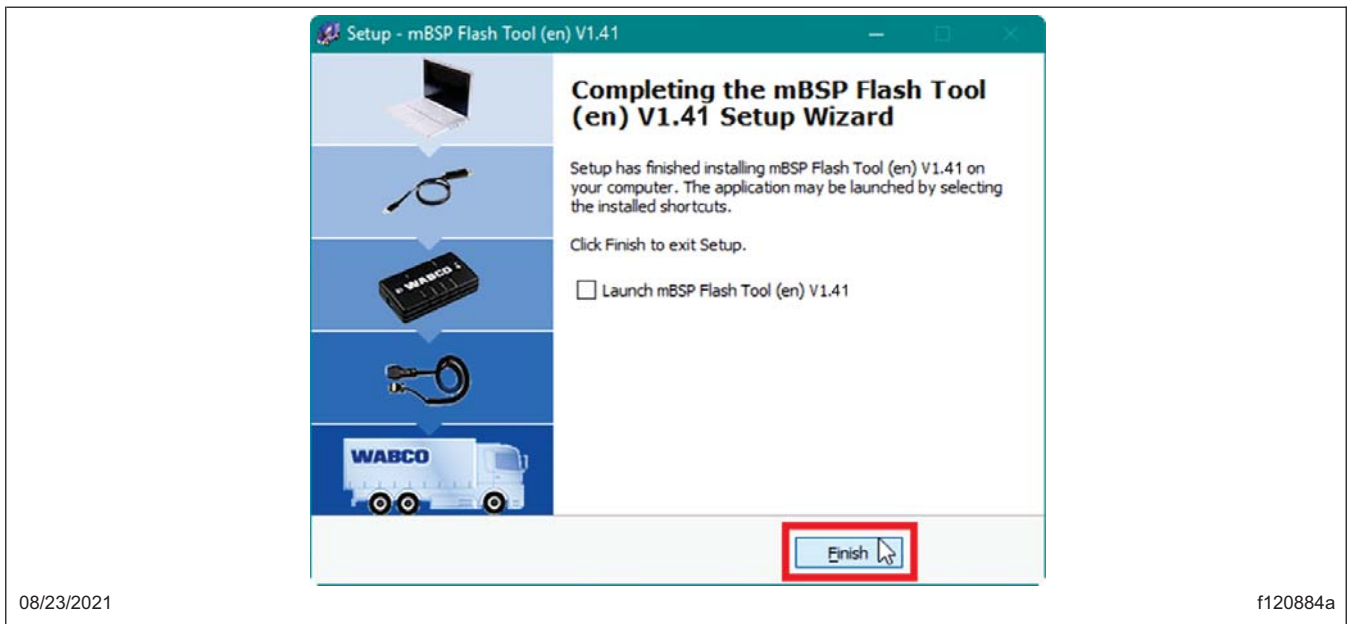

Fig. 24, Completing the mBSP Flash Tool Setup Wizard
7.18 In the next window: 'Completing the mBSP Flash Tool Setup Wizard' select 'Finish.' See Fig. 24.